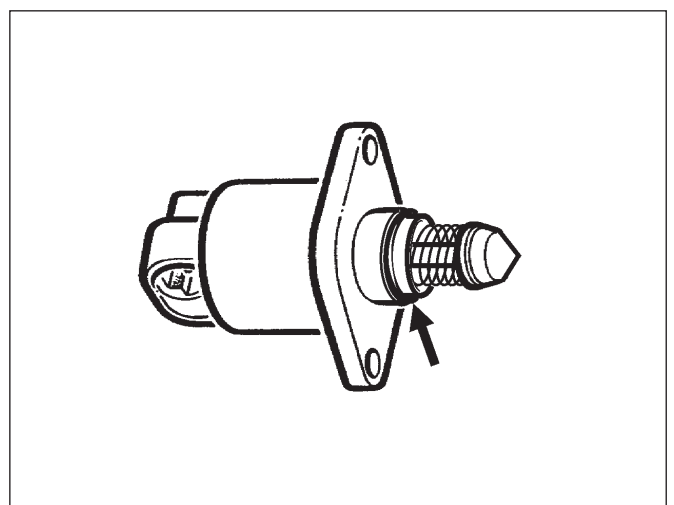

Fig. 1 Stepp motor with O-ring (arrow)
For the above vehicles, the product range has been extended by the addition of stepp motors, Fig. 1.
According to Fig. 1, including O-ring (arrow).
- Ensure correct seating of O-ring (arrow), Fig. 1.